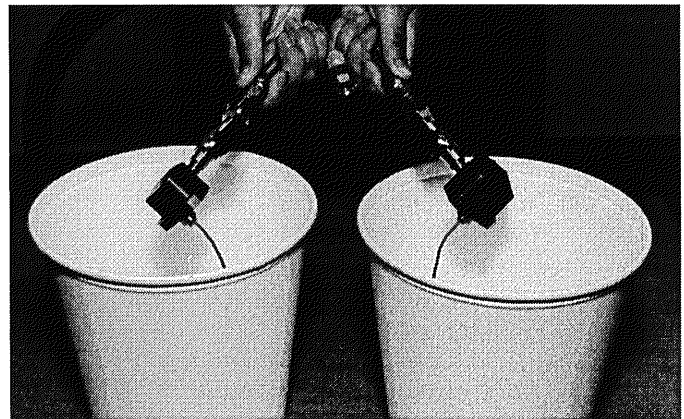
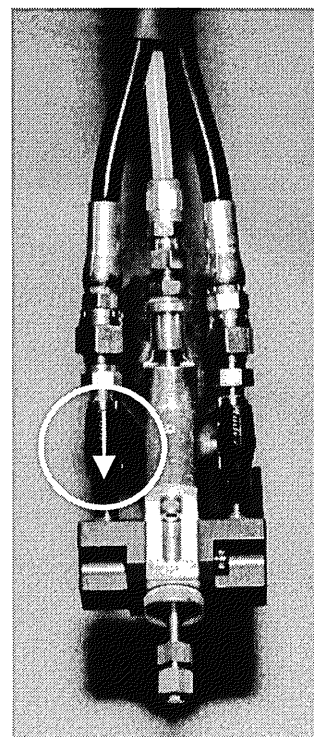

Fig. 3
Fig. 4
3. Place separate clean containers under each individual Side Block. Open manual Material Valves (black arrow forward, see Fig. 4 & 5) on each Side Block simultaneously to allow trapped air to escape the Hose and material to flow into the containers until all air is purged from the material system. (see Fig. 3)
14. Turn Purge Air and Material Valves ON at Gun. (see Fig. 4 & 5)
Refer to Figures 4 and 5.